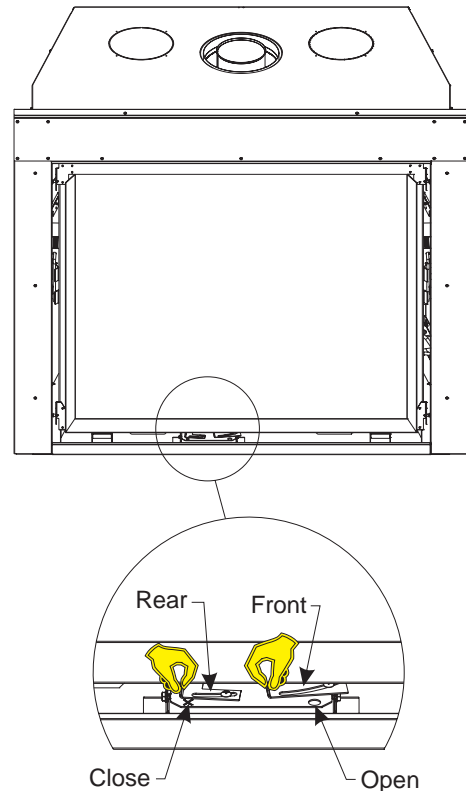

Figure 74
5. You may now adjust the air shutters. The right air shutter handle adjusts the front air shutter and the left air shutter handle adjusts the rear air shutter. Slide the air shutter handle towards the right to open and to the left to close. **See Figure 74.**